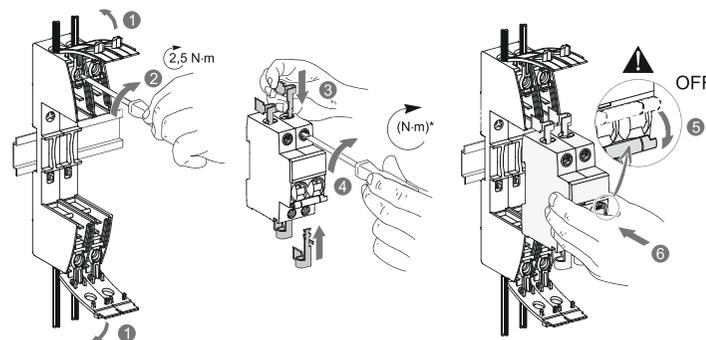

Рисунок 5 – Монтаж автоматического выключателя / Figure 5 – Installation of the circuit-breaker
Wiring of power supply and load side conductors and circuit breaker is carried out according to the algorithm shown in figure 5.
– after installing the module on the T-shaped mounting rail TH 35 according to IEC 60715 or on the mounting plate, open the protective covers, item 1 in figure 5 (open the protective covers until they are fixed);
– then connect the power supply side and load side conductors to the module terminals and tighten the screw terminal with a torque of 2.5 N·m, item 2 in figure 5;
– then connect the lamellae of the blade type to the circuit-breaker outputs, item 3 in figure 5. Next, tighten the screw terminals with the specified torque, item 4 in figure 5;
– then it is necessary to bring the circuit-breaker to the "Off" position, item 5 in figure 5;
– then it is necessary to mount the circuit-breaker in the module, item 6 in figure 5.